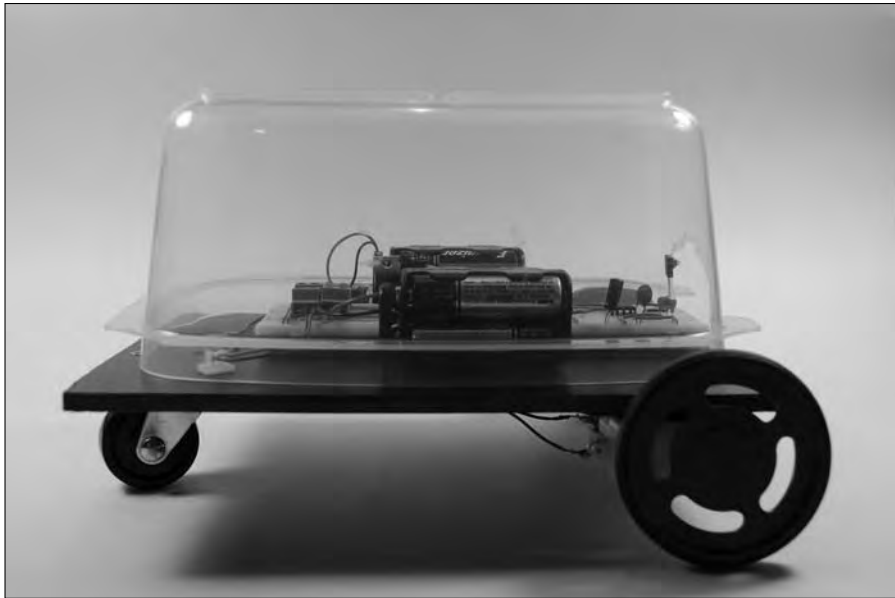

Figure 11-42:
15. Rest the bubble on the kart, as shown in Figure 11-42.